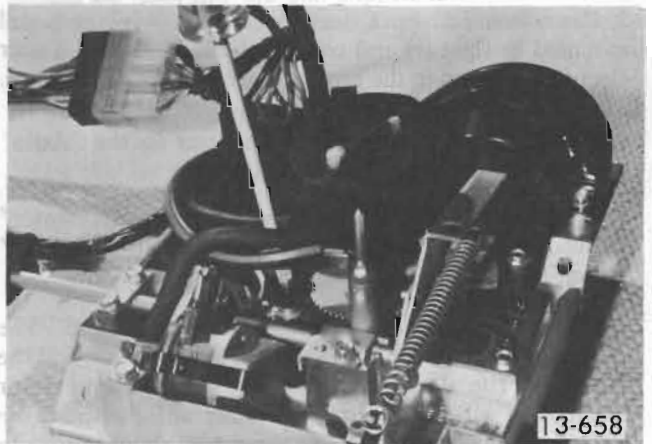

Figure 13-120 Feedback Potentiometer Adjustment
8. Using a blade-type screwdriver, slip the shaft of the feedback potentiometer fully counterclockwise to its stop (see Figure 13-120 for location of the feedback potentiometer in the programmer). The vacuum motor mechanism will be "in" the vacuum motor indicating full heat operation.
b. Using a screwdriver, slip the shaft of the feedback potentiometer, turning the shaft fully counterclockwise (gear does not move). See Figure 13-120. The vacuum motor should now be in the "Full Heat" position. (The vacuum motor mechanism will move into the vacuum motor.)